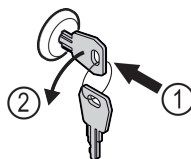

Fig. 166
- ▶ Insert the key. Fig. 166 (1)
- ▶ Turn the key anticlockwise by 90°. Fig. 166 (2)